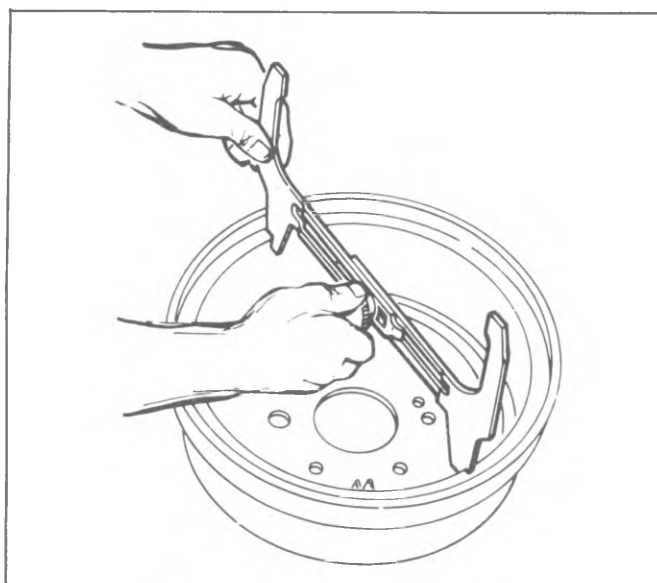
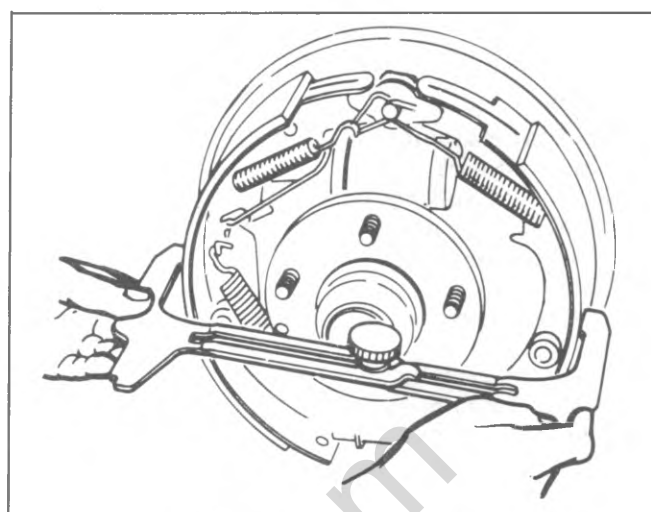

Fig. 5-44--Measuring Brake Drum I.D.
Fig. 5-45--Adjusting Brake Shoes
8. Measure brake drum I.D. using inside caliper portion of Tool J-21177 (fig. 5-44). Adjust brake shoes to dimension obtained on outside caliper portion of Tool J-21177 (fig. 5-45).
9. Measure brake drum I.D. using inside caliper portion of Tool J-21177. Adjust brake shoes to dimension obtained on outside caliper portion of Tool J-21177 (figs. 5-44 and 5-45).